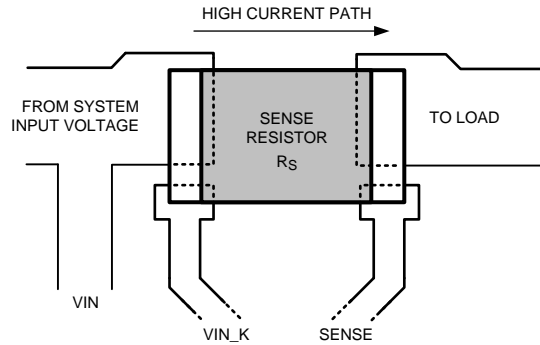
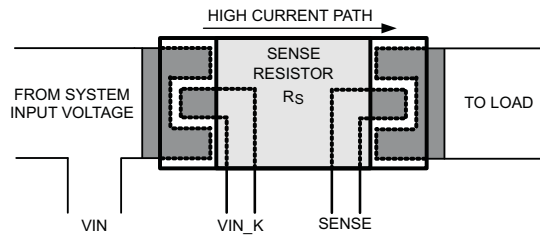

Figure 14. Sense Resistor Connections, Edge Sensed
Figure 15. Sense Resistor Connections, Centered Sensed
Connections from R_S to the LM5056/LM5056A should be made using Kelvin techniques. In the suggested layout of Figure 14 the small pads at the lower corners of the sense resistor connect only to the sense resistor terminals, and not to the traces carrying the high current. With this technique, only the voltage across the sense resistor is applied to V_{IN_K} and $SENSE$, eliminating the voltage drop across the high-current solder connections.
If the PCB layout and resistor pads allow for it, the connection shown in Figure 15 gives optimal kelvin sensing performance.
- The sense resistor (R_S) should be placed close to the LM5056/LM5056A. Connect R_S using the Kelvin techniques shown in Figure 14 or Figure 15.